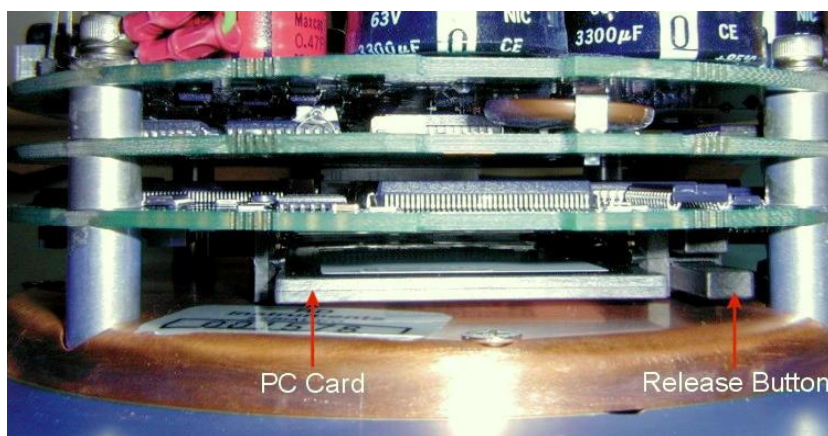

Figure 5. Memory Card Overview
Memory cards are not included with the Mariner ADCP. Two PCMCIA memory card slots (see Figure 5) are available. The maximum memory for each slot is 2GB, with the total memory capacity not to exceed 4GB. The PC Card recorder is located on the Digital Signal Processor (DSP) board inside the Workhorse's electronics. To recover data, the card can be removed and used in a personal computer (PC), or left in the Workhorse, and accessed by using *WinSC* (see the *WinSC* and *PlanADCP* User's Guide).